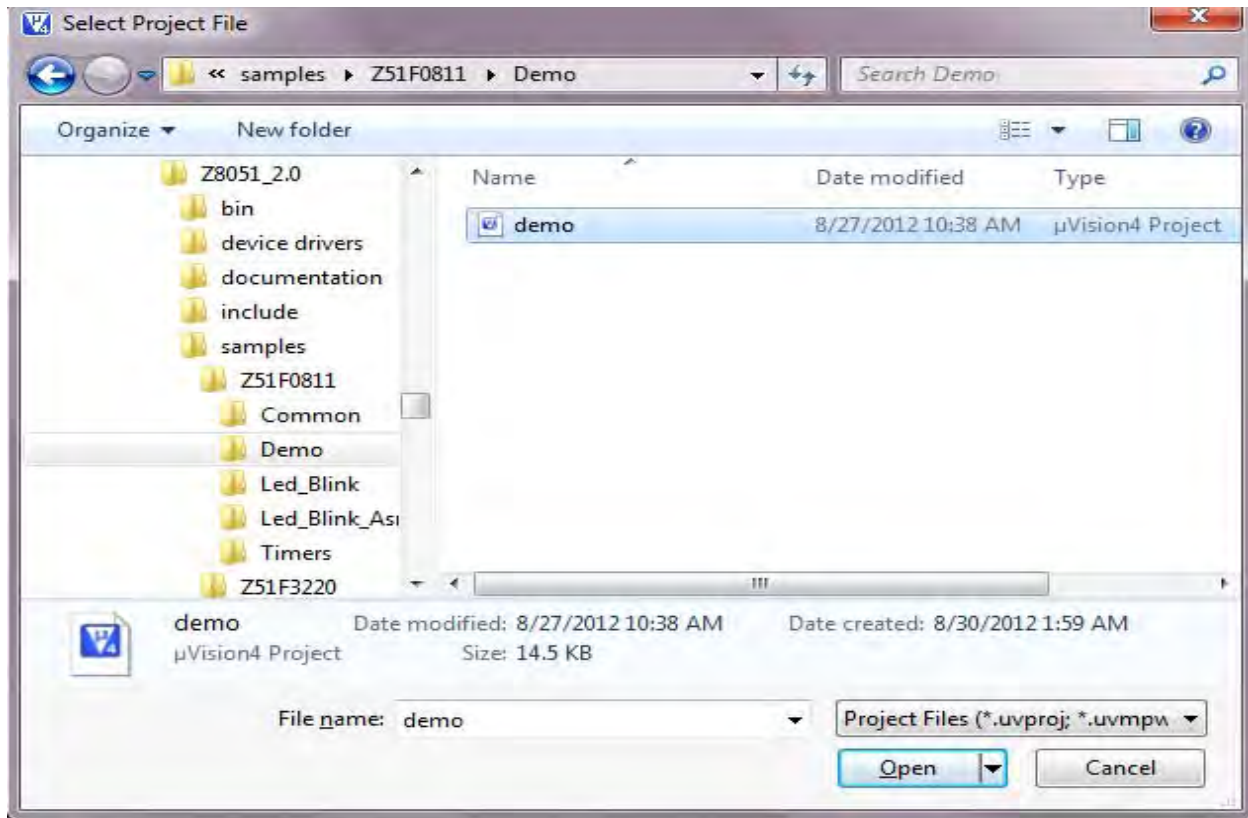

Figure 21. Selecting the Demo Project File
3. Select the `Demo.uvproj` file and click **Open**; see Figure 21.